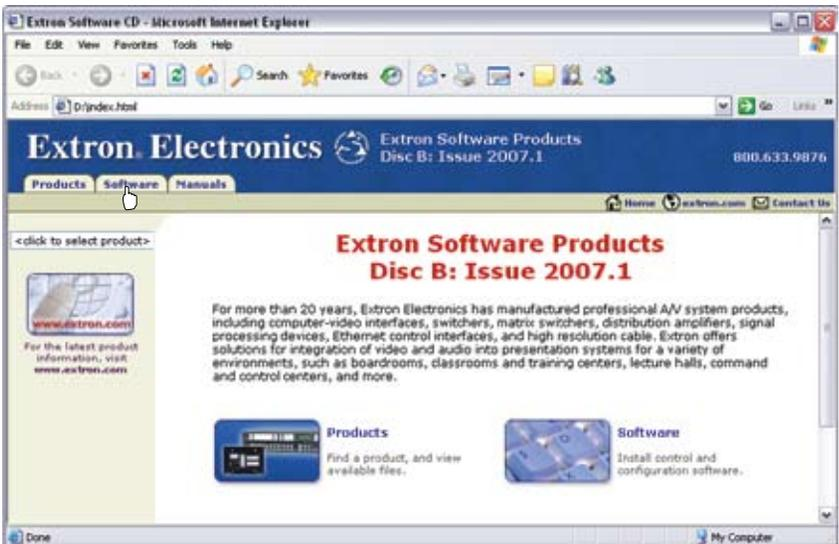

Figure 3-2 — Software CD window
The Extron software CD window appears (figure 3-2).
2. Click the Software tab (figure 3-2).